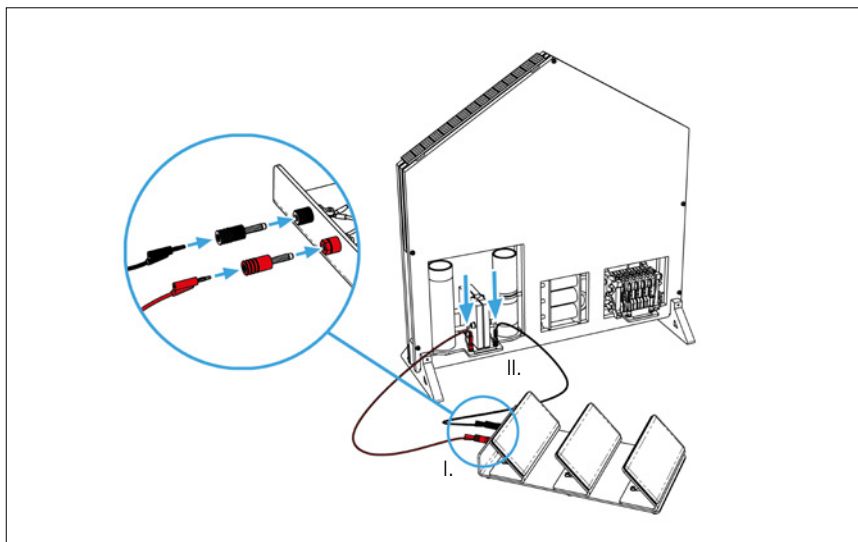

Fig. 8: Operation „DEMO House“
- Connect the connections of the solar module (I.) to the connections of the electrolyzer (II.) (see fig. 8) using connecting cables and adapter